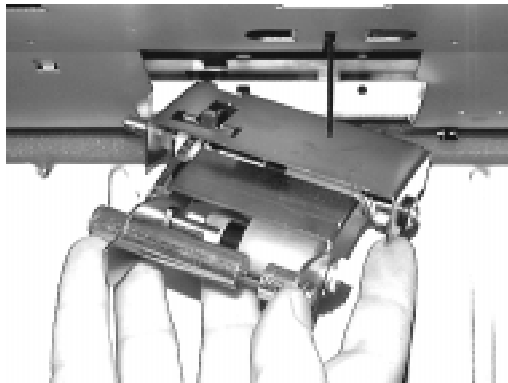

Figure 4-65 Installing Upper Roller Assembly
1. From the front of the HCI, gently guide the upper roller assembly into place, as shown in Figure 4-65.